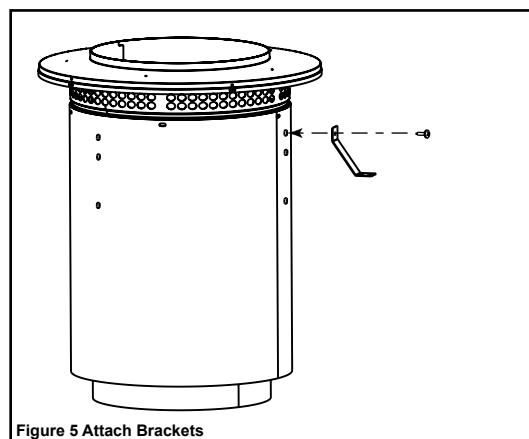

Figure 5 Attach Brackets
- Attach three brackets to the cap using the holes as indicated below and in Figure 5: